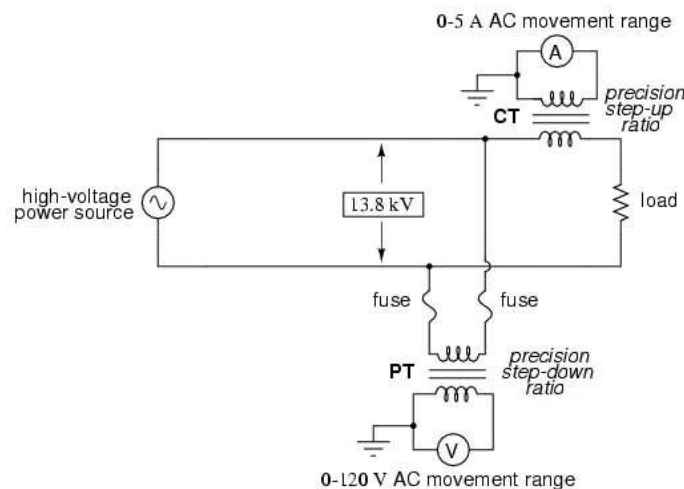

Figure.4.4. Potential transformer and Current transformer circuit.
4.2.2.1. Potential transformer. These transformers are extremely accurate ratio step-down transformers and are used in conjunction with standard low-range voltmeters (usually 0-120V) whose deflection when divided by voltage transformation ratio, gives the true voltage on the high voltage side. A typical potential transformer is as shown in the figure 4.4. They are used for measuring high alternating voltages.
4.2.2.2. Current transformer. These transformers are used with low-range ammeters. They step down the current in a known ratio. The current transformer has a primary coil of one or more turns of thick wire connected in series with the line whose current is to be measured. The secondary consists of a large number of turns of fine wire and is connected across the ammeter terminals (usually 0-5A). A typical current transformer is as shown in the figure 4.4. They are used for measuring high alternating currents.